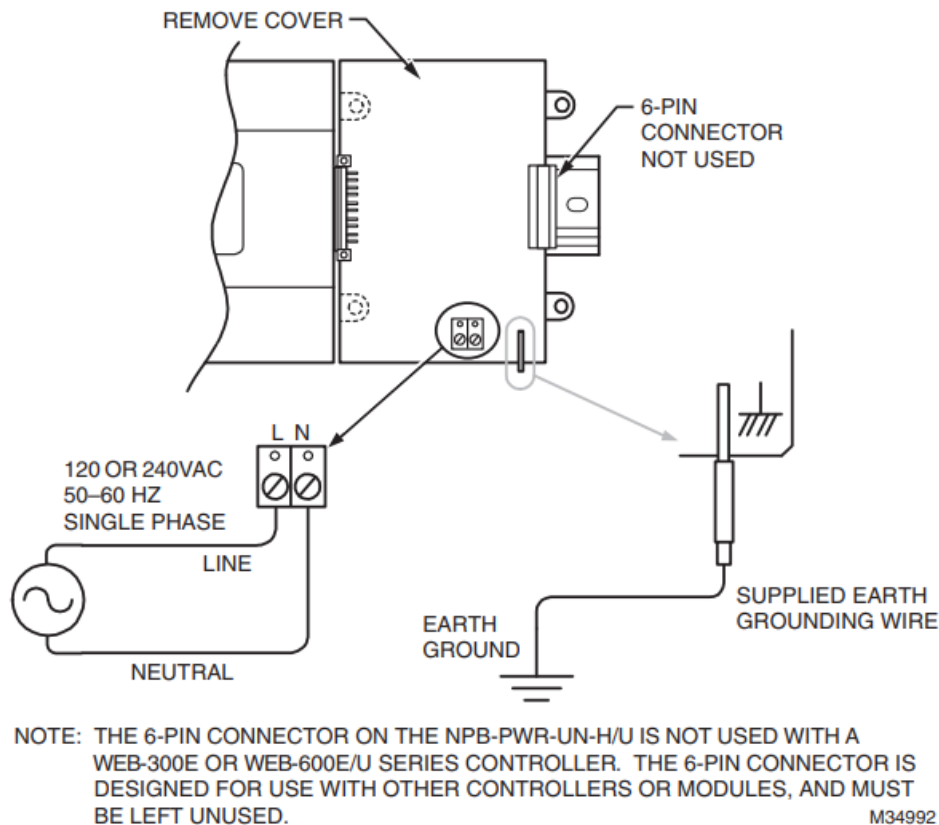

Fig. 5. NPB-PWR-UN-H/U module wiring connections.
2. Connect the supplied earth grounding wire to a nearby grounding point. See Fig. 5.